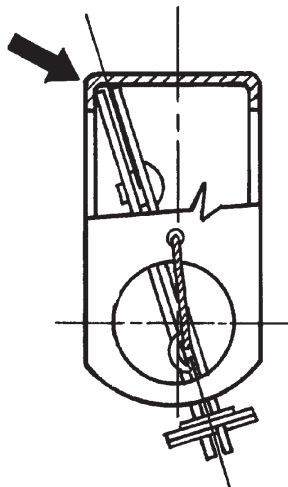

FIGURE 40a
9. Install the linkage and the correct ANSUL approved fusible link in the remainder of the detector brackets. Make certain all detector linkages are positioned against either the front or back upper lip of the formed detector bracket. See Figure 40a.